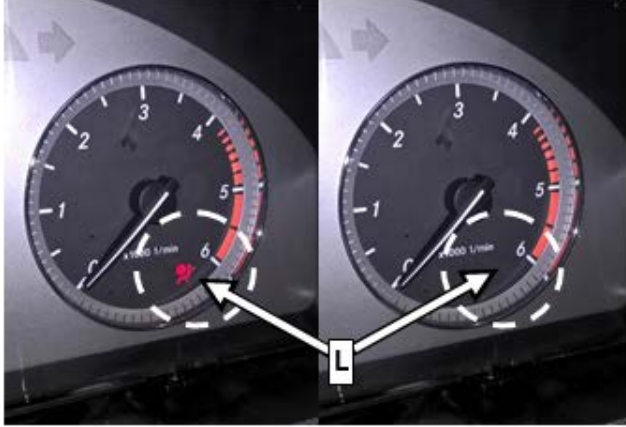

Figure 8
11. Start engine and check whether Supplemental Restraint System (SRS) indicator lamp (Figure 8/9) goes out after a few seconds.